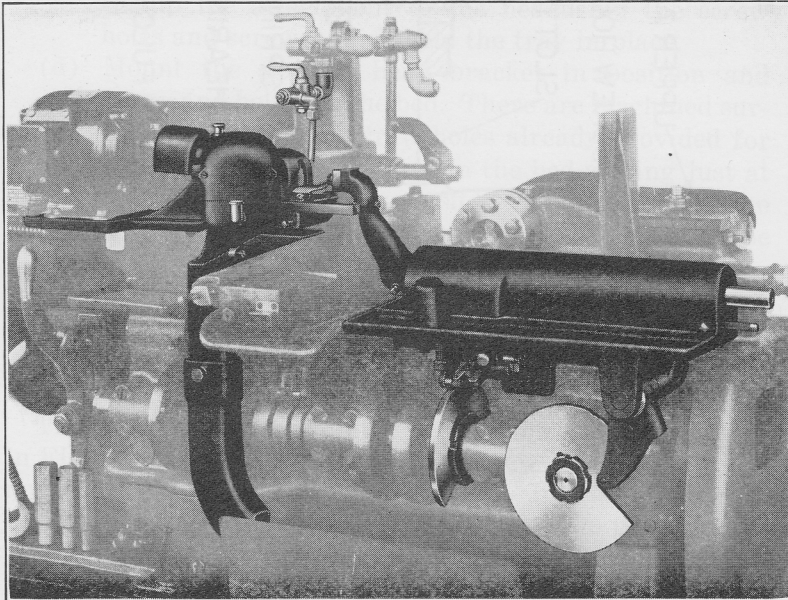

Fig. 8. Screw Slotting Attachment (No. 0 Size Machine)
There are two units in a screw slotting attachment, the slotting head and the transfer mechanism. Both of these are shown in Fig. 8. The slotting head, containing the slotting saw and its reduction gears, is mounted on an adjustable slide. The slide and saw driving motor are supported in a position just above
- (e) Cutting oil must be delivered to the slotting saw. A short section of pipe, a shut-off valve and a small nozzle must be attached to the regular piping circuit. The view of Fig. 8 suggests a possible arrangement.